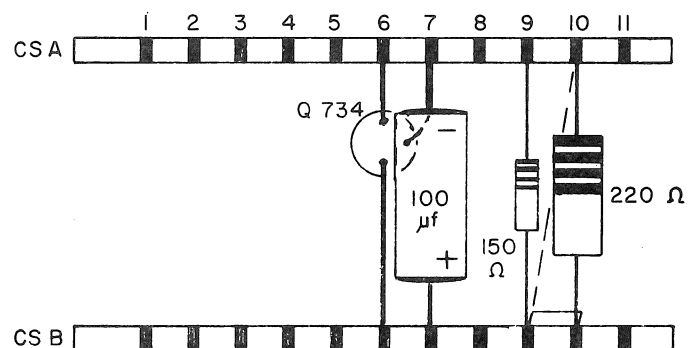

FIG. 2
- ( ) 8. Replace the 4.21 k resistor (R731, not shown in Fig. 2) connected between CSA-7 and CSB-7 with the 2.05 k resistor from the kit.
- ( ) 9. Replace the 31.1 k resistor (R732, not shown in Fig. 2) connected between CSA-8 and CSB-8 with the 15 k resistor from the kit.
- ( ) 10. Solder the 100 $\mu$ F capacitor (C732, from kit) with the '-' terminal to CSA-7 and the '+' terminal to CSB-7, as indicated in Fig. 2.
NOTE: If your instrument DOES NOT have the strap shown in dotted lines between the 150 $\Omega$  and 220 $\Omega$  resistors, as indicated in Fig. 2, disregard steps 11 through 13.
- ( ) 11. Remove the 220 $\Omega$  2 W resistor (R744) connected between CSA-10 and CSB-10 (see Fig. 2).
- ( ) 12. Remove the end of the strap (shown in dotted lines) from CSA-10, trim it, and re-solder to CSB-10 (see Fig. 2).